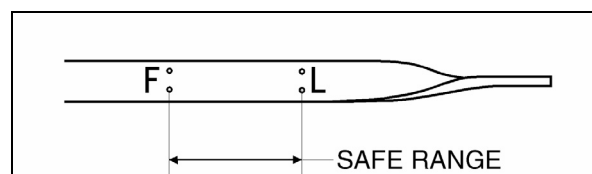

FIGURE 8: ENGINE OIL LEVEL DIPSTICK
Check the oil level daily with the engine stopped. If the engine has just been stopped and is warm, wait at least 10 minutes to allow the oil to drain back to the oil pan before checking. Wipe the dipstick clean then check oil level. The level should always be within the safe range on the dipstick (Fig. 8). Add the proper grade of oil to maintain the correct level on the dipstick. All diesel engines are designed to consume some oil, so a periodic addition of oil is normal.
8. Remove the engine-oil filler cap and pour oil in the engine until it reaches the "FULL" mark on the dipstick (Fig. 8).
10. Add oil as required to bring the level within the safe range on the dipstick (Fig. 8).